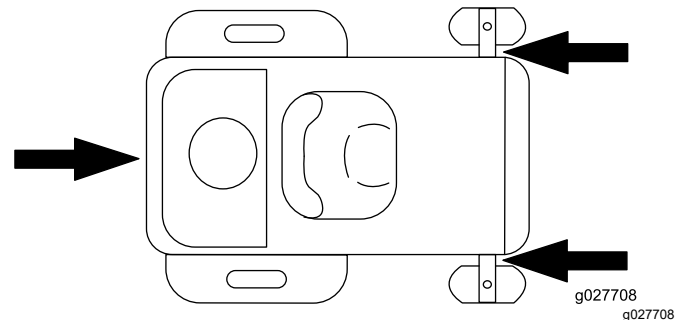

Figure 30
- Securely fasten the machine to the trailer or truck with straps, chains, cable, or ropes. Only use the four designated tie-down locations on the mower—two on the left side and two on the right (Figure 30). Use these locations even when transporting the mower with an attached accessory. Using non-designated locations may cause damage to the mower and/or attachment.